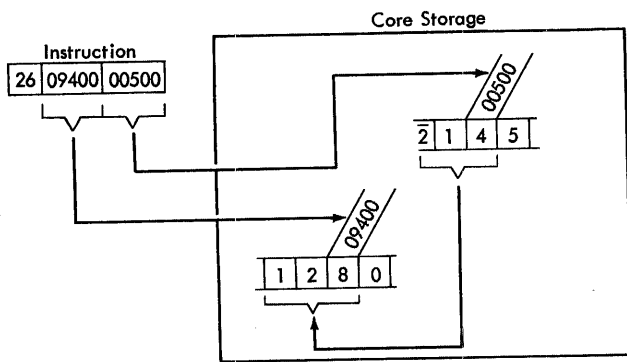

Figure 17. Transmit Field Operation
In Figure 17, the data ($\bar{2}14$) in the field defined by the Q address (00500) replaces the data (128) in the field defined by the P address (09400). The data at the Q address is not changed.